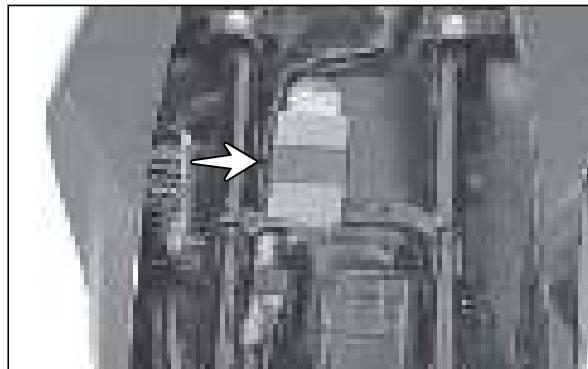

Fig. 5.63
- Head lamp control unit is placed below the seat assembly near the fuse holder. Head lamp control unit can be checked by doing a good (or) bad analysis (replacing existing with a new one). (Fig.5.63)